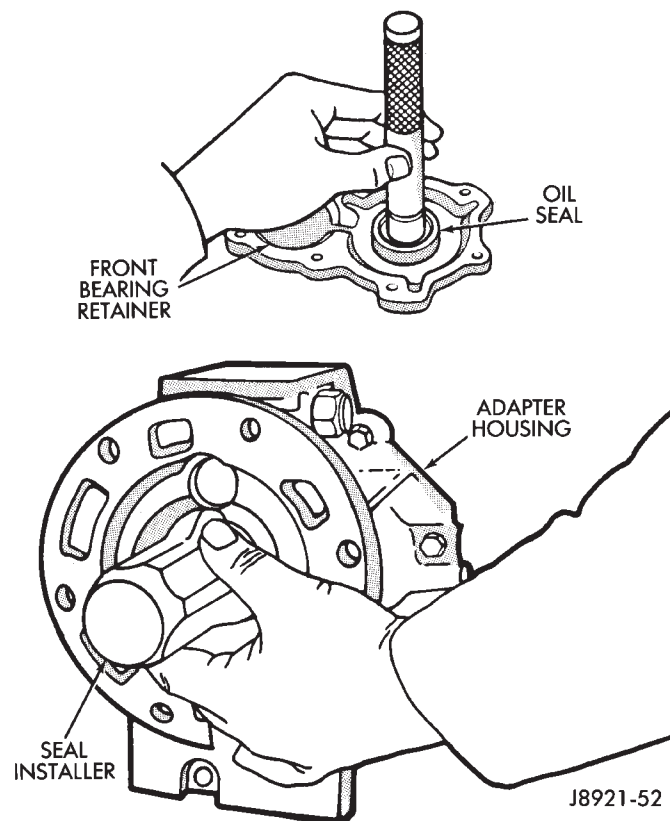

Fig. 72 Oil Seal Installation
(3) Install new oil seals in front bearing retainer and adapter housing (Fig. 72). Installation depth for bearing retainer seal is 10.5 - 11.5 mm (0.414 - 0.453 in.).